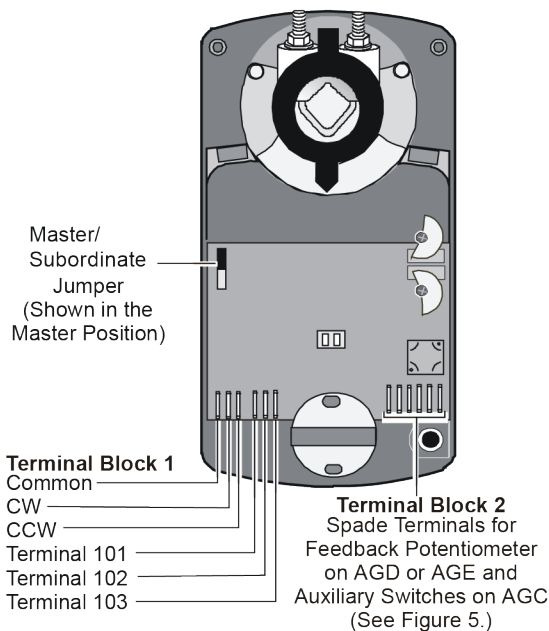
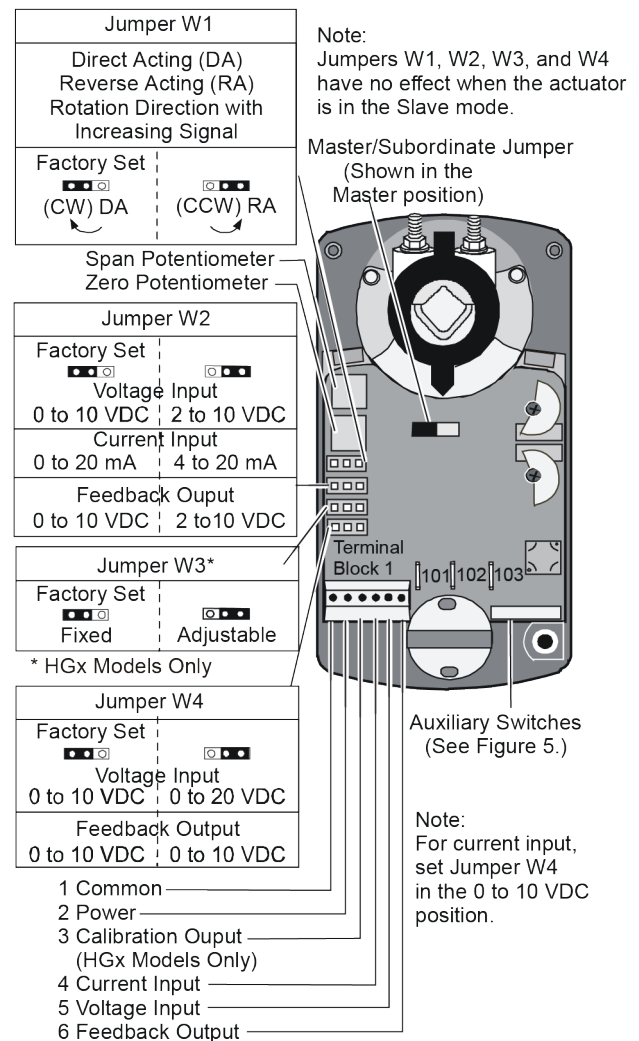

Figure 7: Settings on AGx Models
Figure 8: Settings on GGx and HGx Models
The Master/Subordinate Jumper is factory set in the master position. Determine the method for mounting the two actuators in tandem: front-to-back (Figure 7 shows the front view) or back-to-back, and proceed as follows:
2. Connect Terminal 101, Terminal 102, and Terminal 103 from the master actuator to the corresponding terminals on the subordinate actuator. (Refer to Figure 7 for AGx models and Figure 8 for GGx and HGx models.)
- For **AGx models**, connect the input control signal to the common, CW, and CCW terminals on both the master and the subordinate actuators. (See Figure 7.)
Note: Set the master actuator jumpers on the **GGx and HGx models** according to the action and signal range desired before proceeding. (Refer to Figure 8 and the *Setup and Adjustments, Calibration* section.)
2. Move Jumper W1 from the factory-set DA position to the RA position. (See Figure 8.)
AGx models come factory set with the Master/Subordinate Jumper in the master position and have no additional jumpers. **GGx, HGx, and JGx models** come factory set with Jumper W1 in the DA position. **GGx and HGx models** have additional jumpers factory set as follows: Jumper W2 is in the 0 to 10 VDC or 0 to 20 mA position, and Jumper W4 is in the 0 to 10 VDC position. (See Figure 8.)